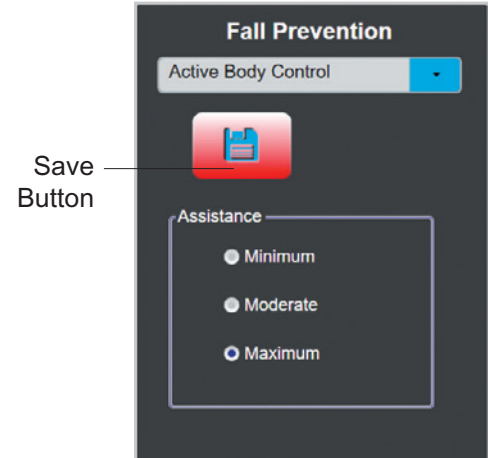

Figure 5-17: Fall Prevention Active Body Control
2. Press the Save button to save the revised assistance level. See Figure 5-17.